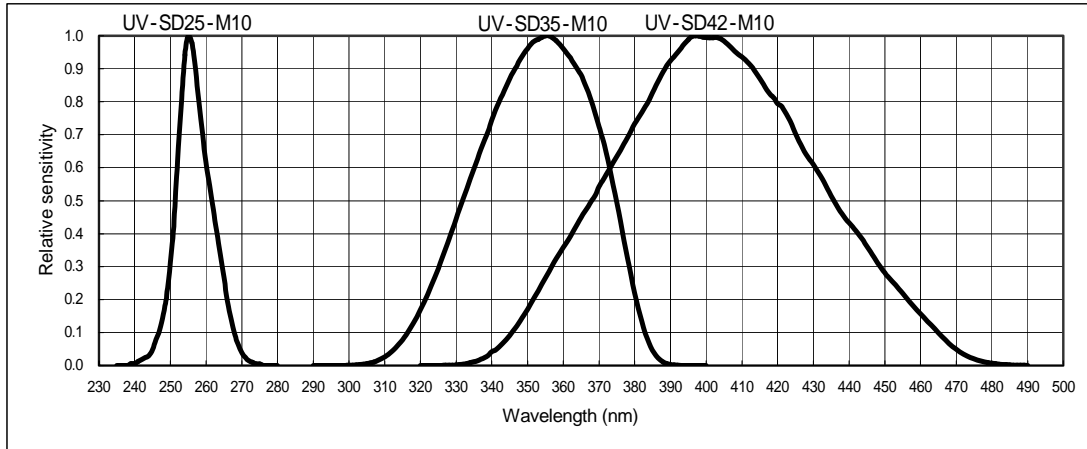

Fig. 1 Relative Spectral Sensitivity Characteristics of Photodetector
23. The emission line of high-pressure mercury vapor lamp calibrates photodetector. The photodetector of same type and same model shows the almost same instrument reading under the measurement with the specified light source. If the light source has some wavelength distribution, the instrument reading may show some deviation by the spectral sensitivity characteristic. Fig. 1 in this operation manual shows the representing value of the relative spectral sensitivity characteristic for each photodetector.
Figures 1 to 6 show the photodetector relative spectral sensitivity characteristics and angular response. The measured wavelength range and peak wavelength depend on the photodetector.